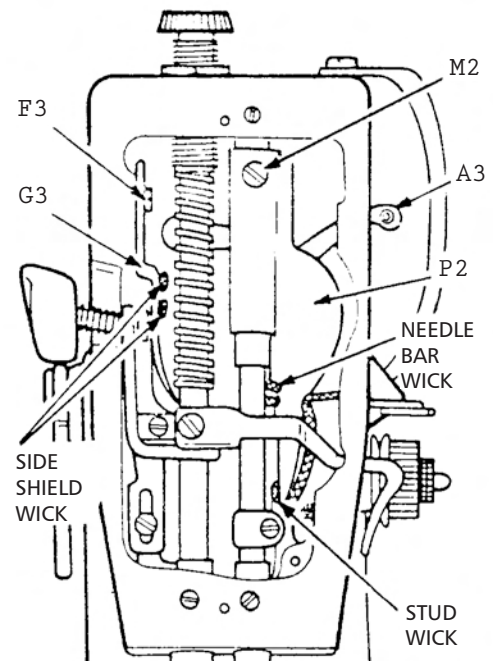

Fig. 23
AND NEEDLE BAR CONNECTING STUD WICK (See Fig. 23)
When replacing the oil guard P2, which carries the needle bar wick and connecting stud wick, make sure that lower end of the stud wick drops into oil pool behind lower needle bar bushing and that the loop of needle bar wick is placed behind the needle bar, as shown in Fig. 23.
13. Replace thread take-up oil guard P2, Fig. 23, page 16.